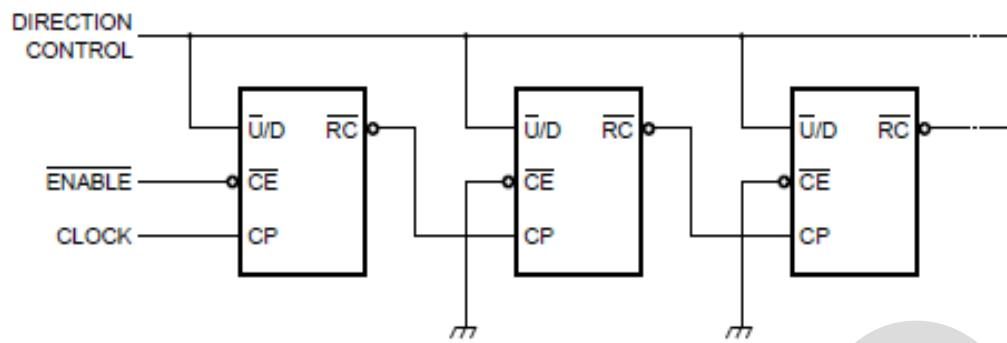
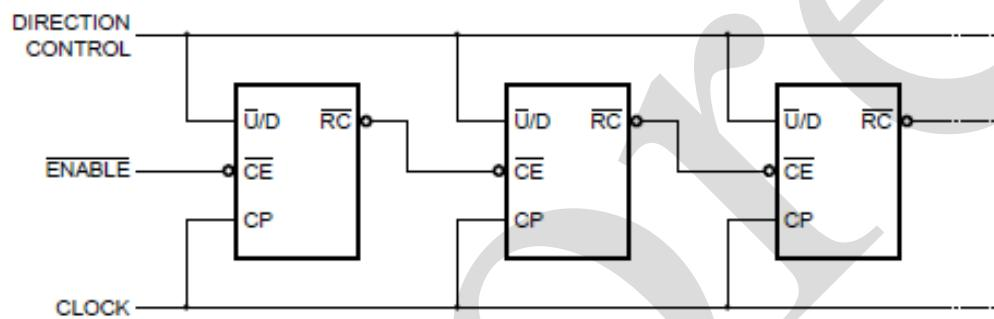
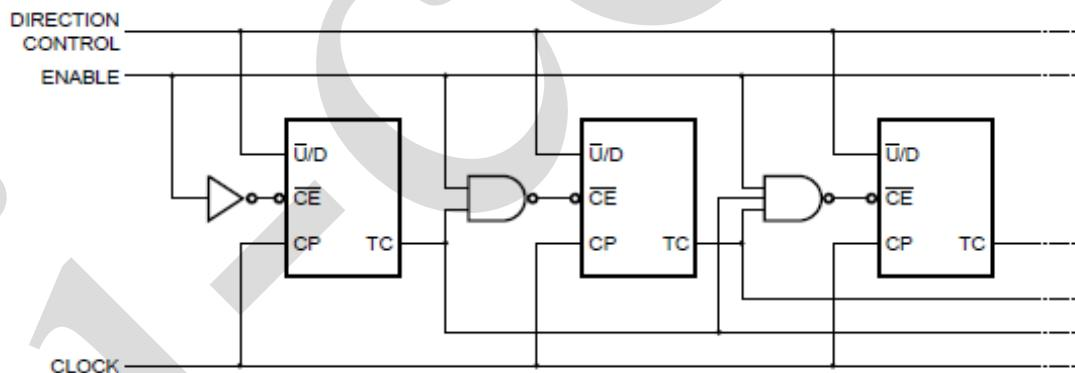

Figure 4. N-stage ripple counter using ripple clock
Figure 5. Synchronous n-stage counter using ripple carry/borrow
Figure 6. Synchronous n-stage counter with parallel gated carry/borrow
Also, the \bar{U}/\bar{D} input should be changed only when either \bar{CE} or CP is HIGH. Overflow/underflow indications are provided by two types of outputs, the terminal count (TC) and ripple clock (\bar{RC}). The TC output is normally LOW and goes HIGH when a circuit reaches zero in the count-down mode or reaches '15' in the count-up-mode. The TC output will remain HIGH until a state change occurs, either by counting or presetting, or until \bar{U}/\bar{D} is changed. Do not use the TC output as a clock signal because it is subject to decoding spikes. The TC signal is used internally to enable the \bar{RC} output. When TC is HIGH and \bar{CE} is LOW, the \bar{RC} output follows the clock pulse (CP). This feature simplifies the design of multistage counters as shown in Figure 4 and Figure 5.
In Figure 4, each \bar{RC} output is used as the clock input to the next higher stage. It is only necessary to inhibit the first stage to prevent counting in all stages, since a HIGH on \bar{CE} inhibits the \bar{RC} output pulse as indicated in the function table. The timing skew between state changes in the first and last stages is represented by the cumulative delay of the clock as it ripples through the preceding stages. This can be a disadvantage of this configuration in some applications.
Figure 5 shows a method of causing state changes to occur simultaneously in all stages. The \bar{RC} outputs propagate the carry/borrow signals in ripple fashion and all clock inputs are driven in parallel. In this configuration the duration of the clock LOW state must be long enough to allow the negative-going edge of the carry/borrow signal to ripple through to the last stage before the clock goes HIGH. Since the \bar{RC} output of any package goes HIGH shortly after its CP input goes HIGH there is no such restriction on the HIGH-state duration of the clock.
In Figure 6, the configuration shown avoids ripple delays and their associated restrictions. Combining the TC signals from all the preceding stages forms the \bar{CE} input for a given stage. An enable must be included in each carry gate in order to inhibit counting. The TC output of a given stage is not affected by its own \bar{CE} signal therefore the simple inhibit scheme of Figure 4 and 5 does not apply. Inputs include clamp diodes. This enables the use of current limiting resistors to interface inputs to voltages in excess of V_{CC} .